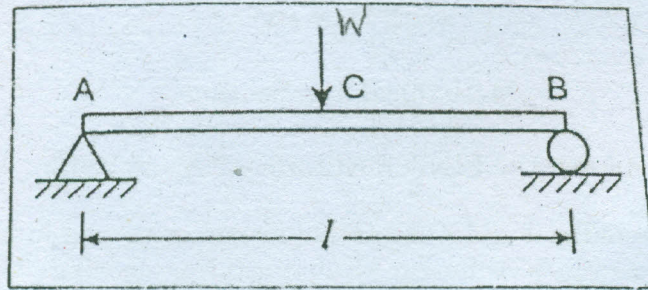

Fig. 11(a)
11. (a) A beam  $AB$  of span ' $l$ ' simply supported at ends and carrying a concentrated load  $W$  at the centre ' $C$ ' as shown in Fig. 11(a). Determine the deflection at midspan by using Rayleigh-Ritz method and compare with exact solution.